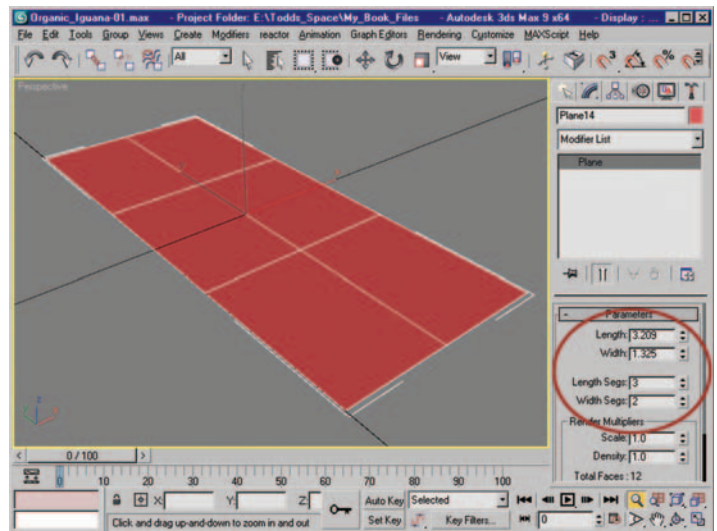

Figure 9.1 Plane object with three length segments and two width segments. The plane is just over 3 inches long and 1.3 inches wide.
1. Activate the top viewport, and create a plane object with three length segments and two width segments. Convert the plane to an Editable Poly object. As with the last exercise, remember the importance of proper/realistic scale when modeling. Figure 9.1 shows the plane with its segments and size values highlighted.